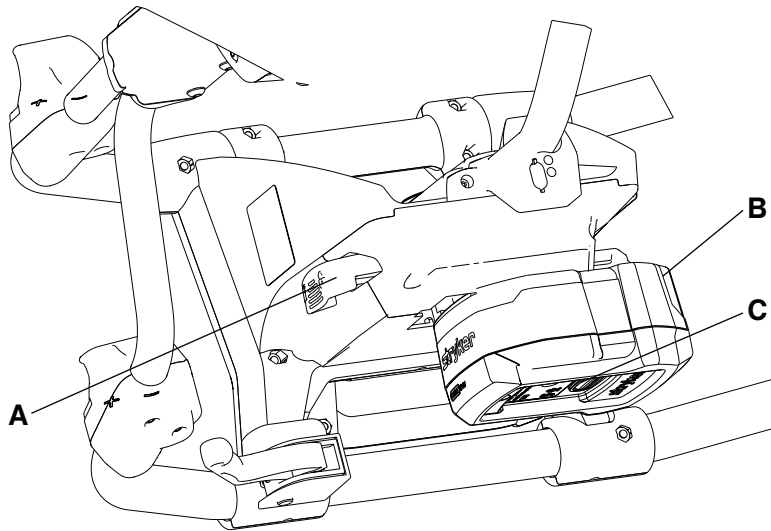

Figure 41 – Releasing the battery
1. Press the red one hand release button (C) or press the battery release button (A) to release the **SMRT Pak** (B) from the cot (Figure 41).